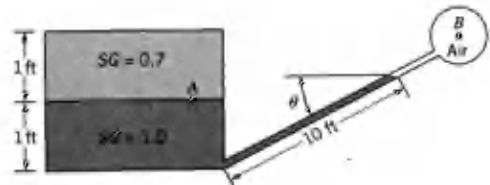

FIGURE P2.6R
2.6R (Manometer) Determine the angle  $\theta$  of the inclined tube shown in Fig. P2.6R if the pressure at A is 1 psi greater than that at B.